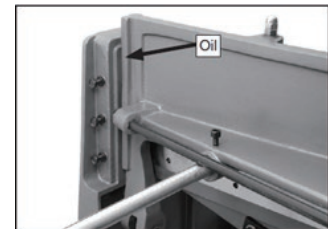

Figure 11
- Gibs and slides (31). (See Figure 11)